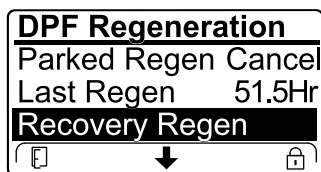

Figure 58
- If the engine computer has not requested a recovery regeneration and you scroll down to the RECOVERY REGEN option, the recovery regeneration locks and the lock icon (Figure 58) appears in the lower right corner of the InfoCenter.